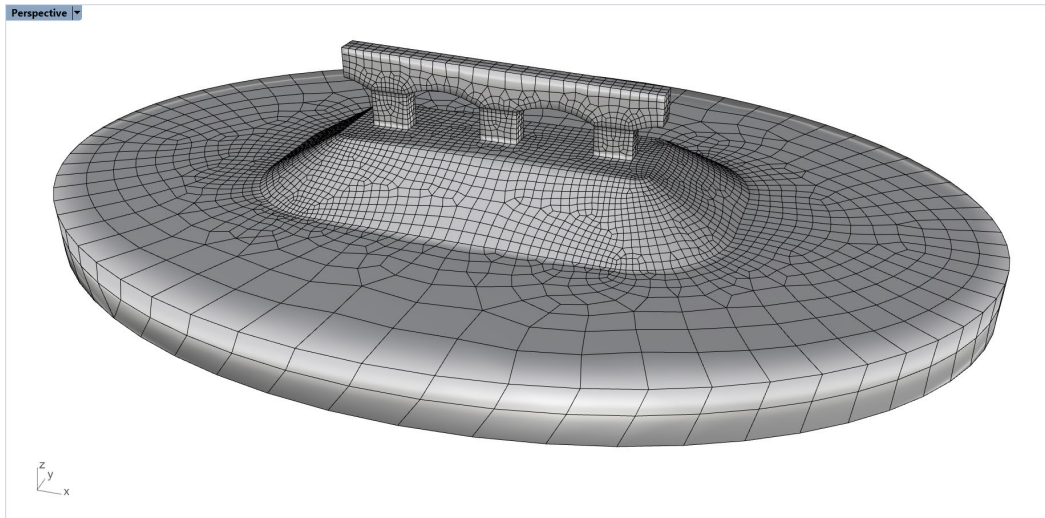

Figure 28: Remeshed surface mesh in the second approach.
23. Select the merged surface mesh (as in Figure 28) and type the **\_GExtract** command or click on the  icon in the *Griddle* toolbar. Select option *AllSurfaces* and use *MaxBreakAngle* = 180 to separate meshes only along non-manifold edges (the break angle will not have an effect as it is set to 180°). Alternatively, if break angle = 89° is used, all meshes that connect at an angle > 89° will also be separated (thus, meshes that are perpendicular to each other will be separated).